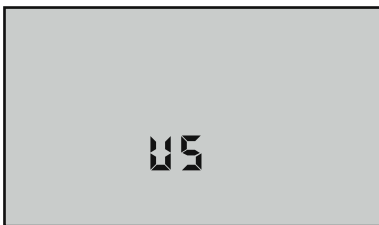

Figure 15
3. Press $\left(\begin{array}{c} \text{CAL} \\ \text{MCLR} \end{array}\right)$ to change. Display will now indicate other format (see Figures 15 & 16).